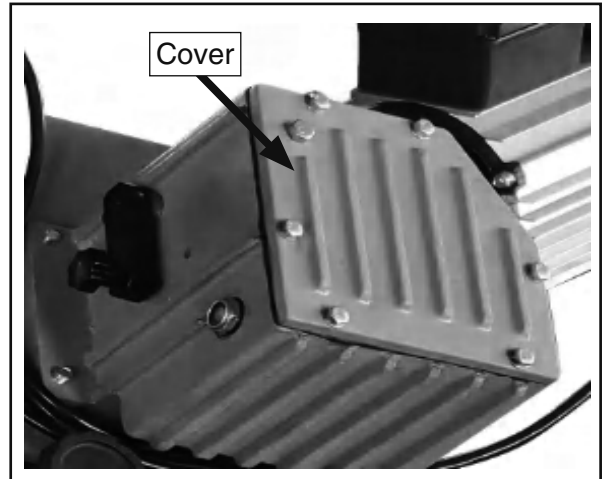

Figure 24 Location of gearbox cover.
1. Remove cover on gearbox (see **Figure 24**).